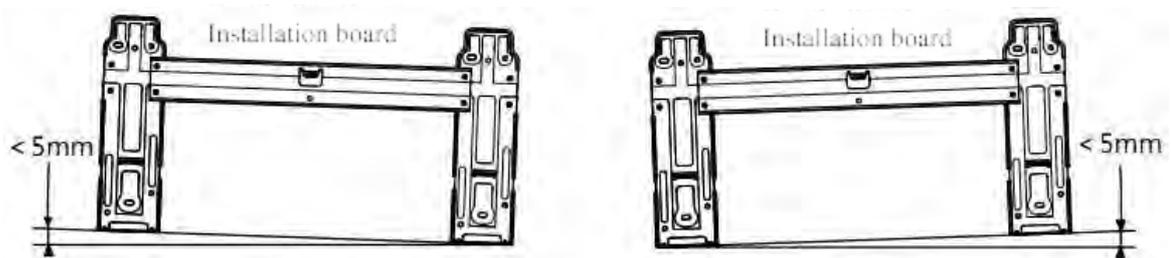

Fig 4
- Dismantle the metal installation board of the indoor unit, Adjust the installation board to horizontal position.The height difference between the left and right sides of the installation board should less than 5mm.(Fig 4)